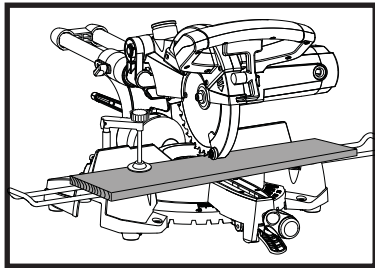

Fig 11
4. TO MAKE A CUT (see fig. 11)